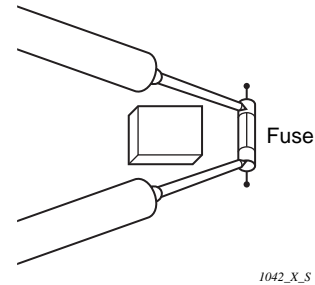

Fig. 22
⑥ Continuity of fuse on P.C.B. Ass'y
- Check for continuity using a multimeter as shown in Fig. 22.